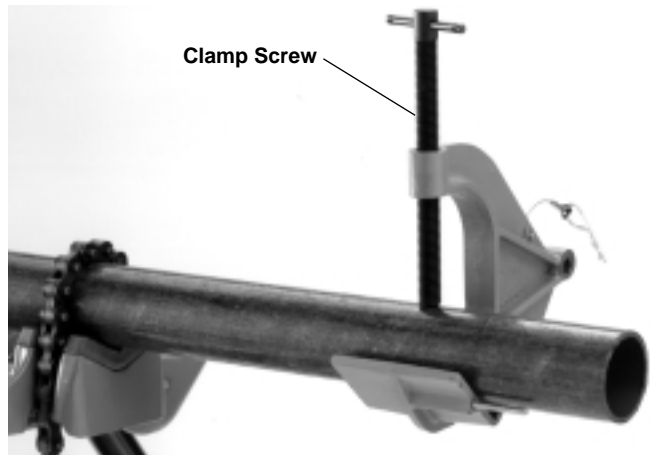

Figure 5
2. Position the work vise on the workpiece and secure by tightening the clamp screw firmly (see Figure 5). The clamp must support the band saw.